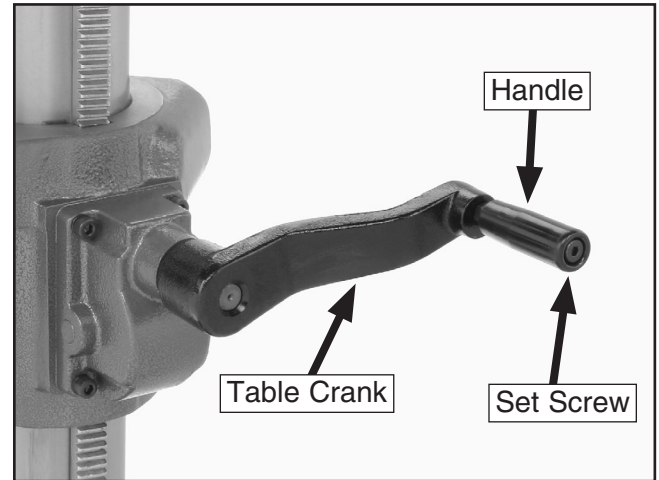

Figure 11. Table crank handle installed.
1. Screw the table crank handle into the threaded hole on the table crank (see **Figure 11**).